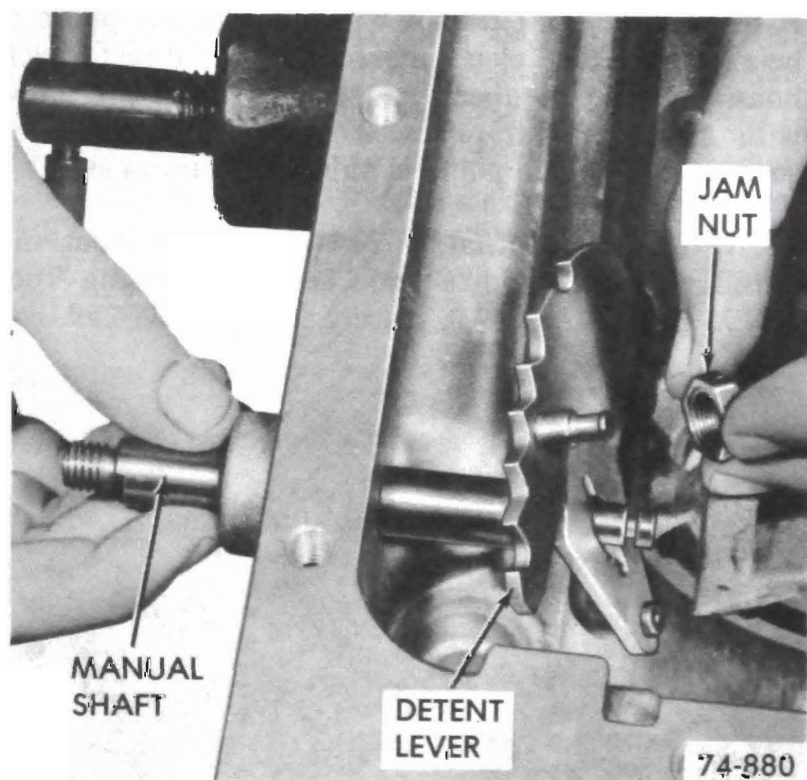

Figure 76-263
5. Install retaining hex-lock nut on manual shaft. See Figure 76-263.